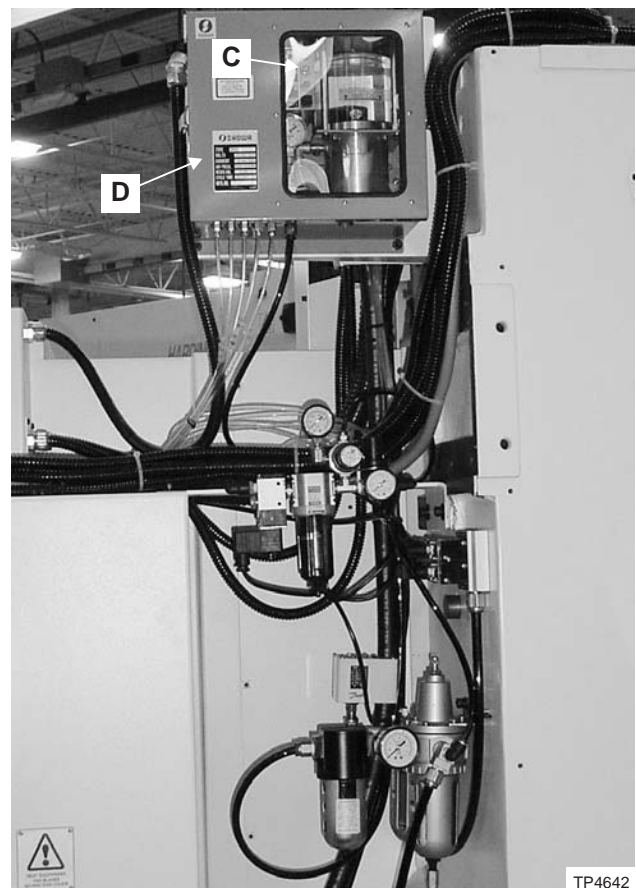

Figure 4.5 - High-Speed Spindle Lubrication System - Air and Lubricator
High-performance high-spindle machines are available with an air-oil spindle lubrication system. This configuration requires an air operating pressure of 75 psi [5.2 bar]. The air-oil lubrication system is located at the rear of the machine between the power case and the column, as shown in Figure 4.5. The labyrinth air seal has a separate air regulator mounted with the air regulator for the air-oil lubricator.
1. Open two latches and lift off front cover "D", Figure 4.5.
The controller to the left of the air-oil lubricator tank indicates system conditions through three LED's "C", Figure 4.5. The controller and tank are replaced as a unit. Each LED indicates the following:
The mixing block (metering unit) is mounted in the lower left corner, just inside front cover "D", Figure 4.5, with the air-oil feeder lines and air line connected to the bottom of the block. The block receives a constant supply of oil while each of the five needle valves in the block set the air flow and mixes air with the oil.
3. Open two latches and lift off front cover "D", Figure 4.5.